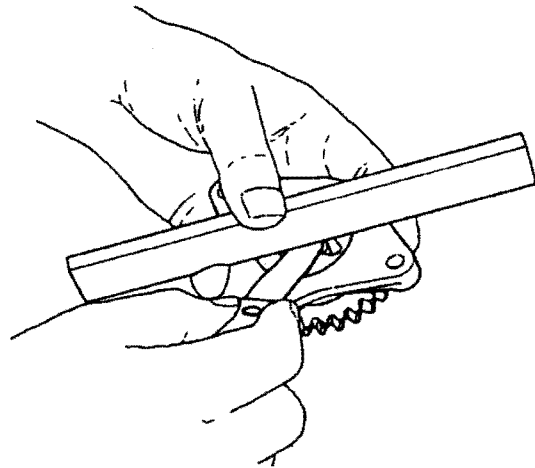

**Figure 9-18**
Inspect the tip clearance between the outer and inner rotors. To inspect this, insert a feeler gauge between the inner rotor tooth tip (**Figure 9-18, (1)**) and the outer rotor tooth tip (**Figure 9-18, (2)**), and measure the clearance.